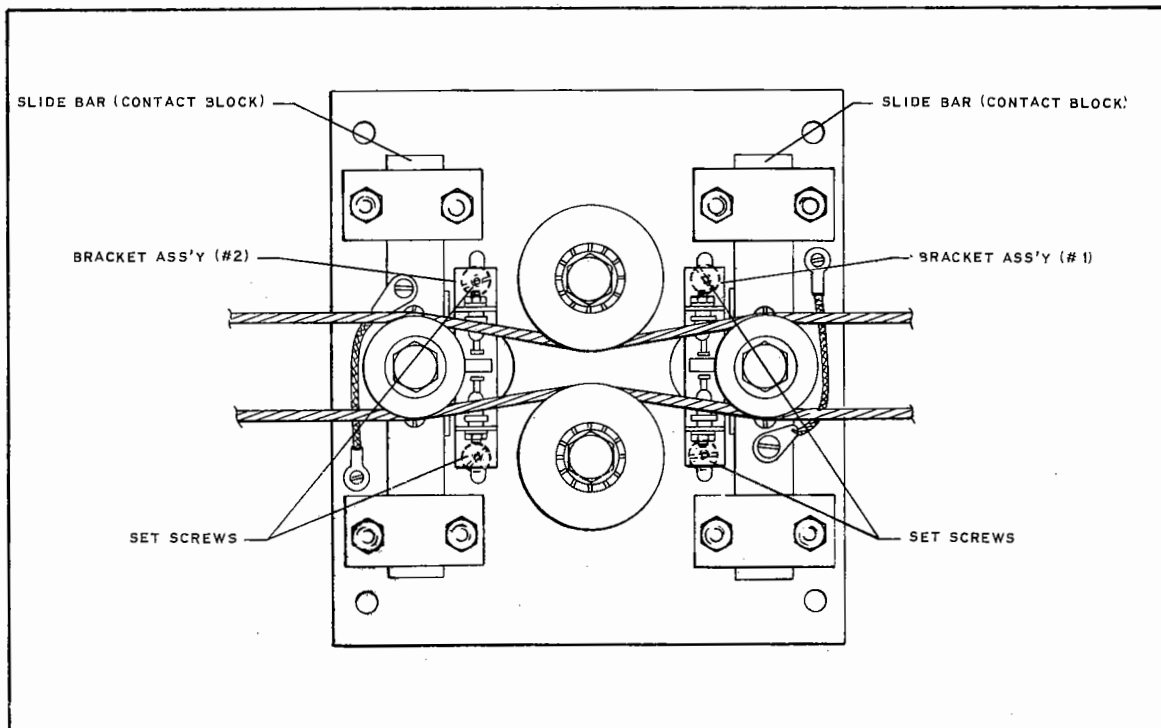

Figure 21-5. Dual Contact Type Trim Sensor
21-8. DUAL CONTACT TRIM SENSOR CENTERING PROCEDURES. The dual contact type trim sensor incorporated with the III Series Automatic Pitch Trim Systems is shown in illustration form in this section of the manual, refer to Figure 21-5. When making dual contact centering adjustments, it is very important to follow the detailed instructions to avoid damage to the test equipment and the sensor.
- c. Centering procedure for plate type dual contact trim sensor. (Refer to Figure 21-5.)
- a. Loosen set screws of adjustment bracket assembly #1 so bracket assembly moves with some friction. (Refer to Figure 21-5.)